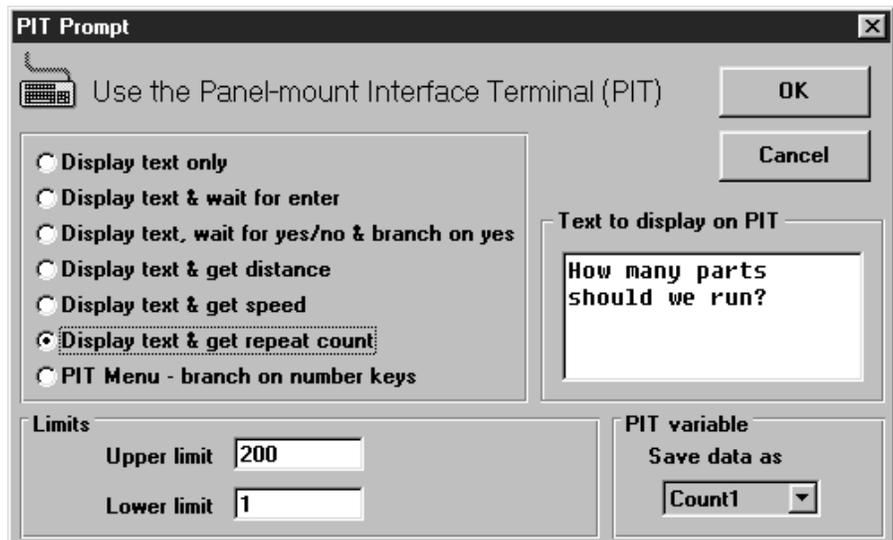

Figure 38 - PROMPT USER FOR REPEAT COUNT
**TO GET A REPEAT COUNT FROM THE USER (see Figure 38)**